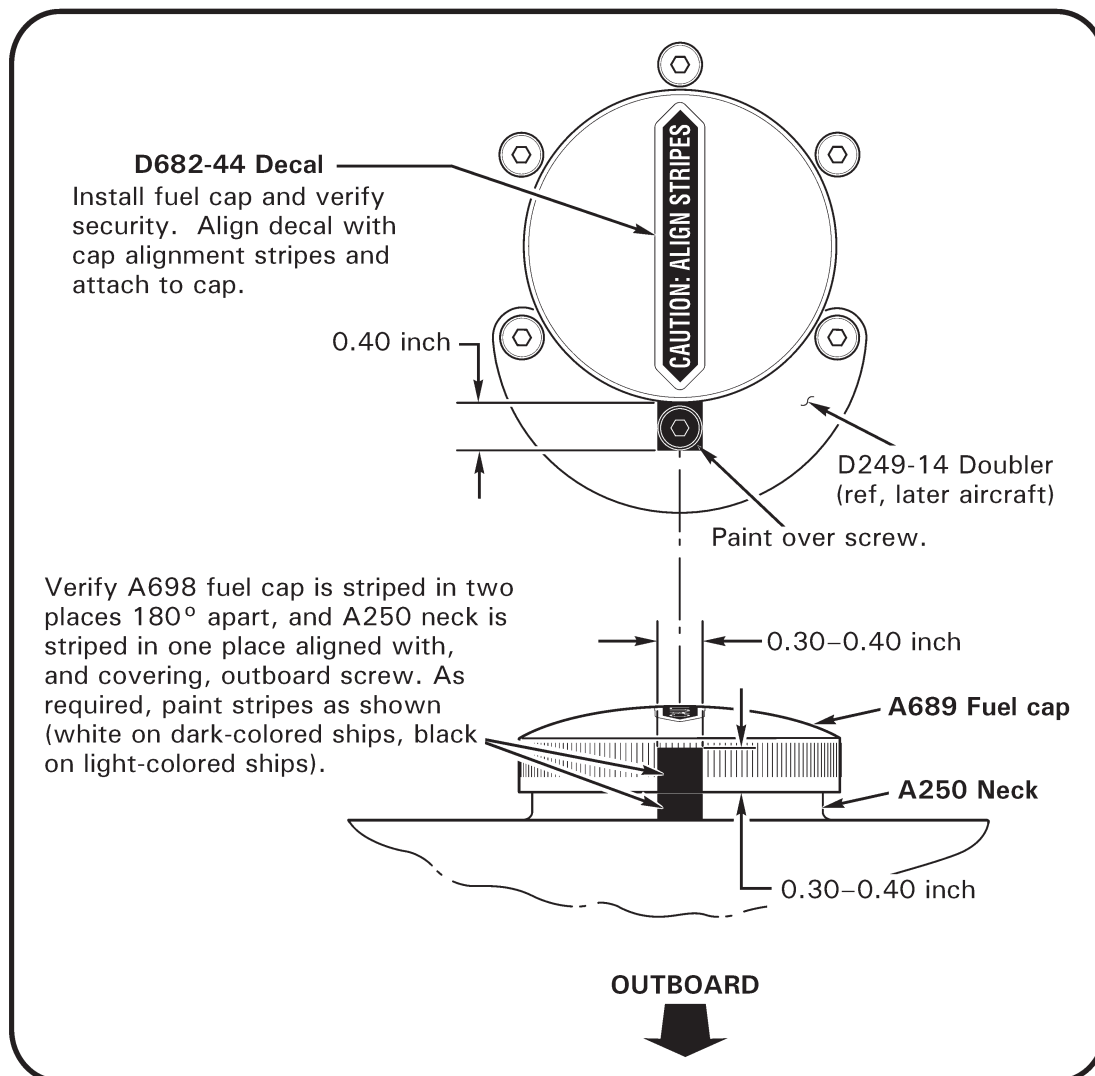

FIGURE 12-3B FUEL CAP ALIGNMENT STRIPES
2. Refer to Figure 12-3B. As required, paint fuel tank's A250 neck stripe (in one place aligned with, & covering, outboard screw) and/or fuel cap stripes in two places 180° apart aligned with fuel neck stripe per the following: